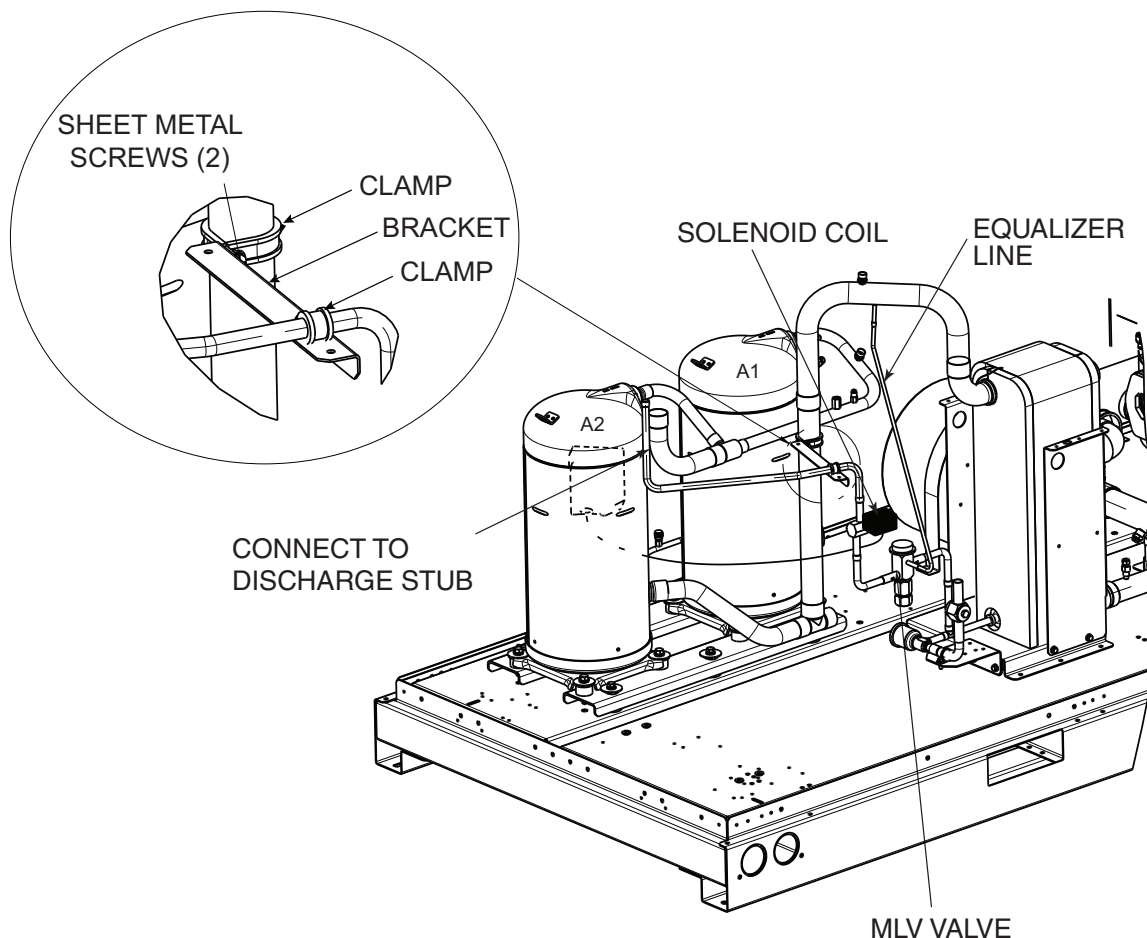
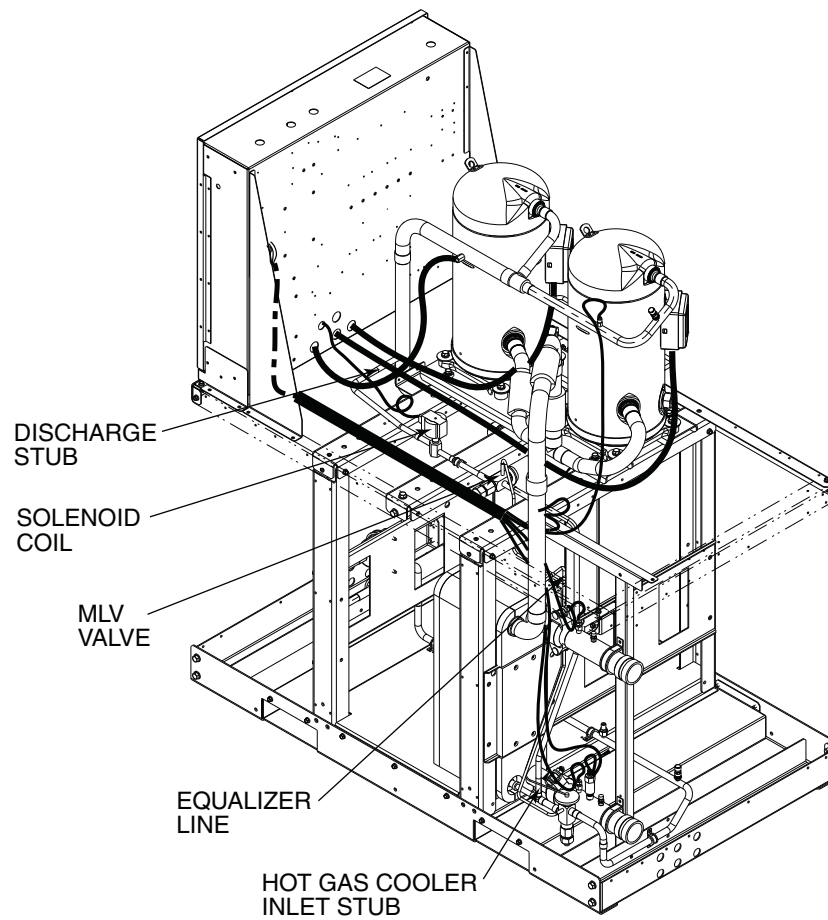
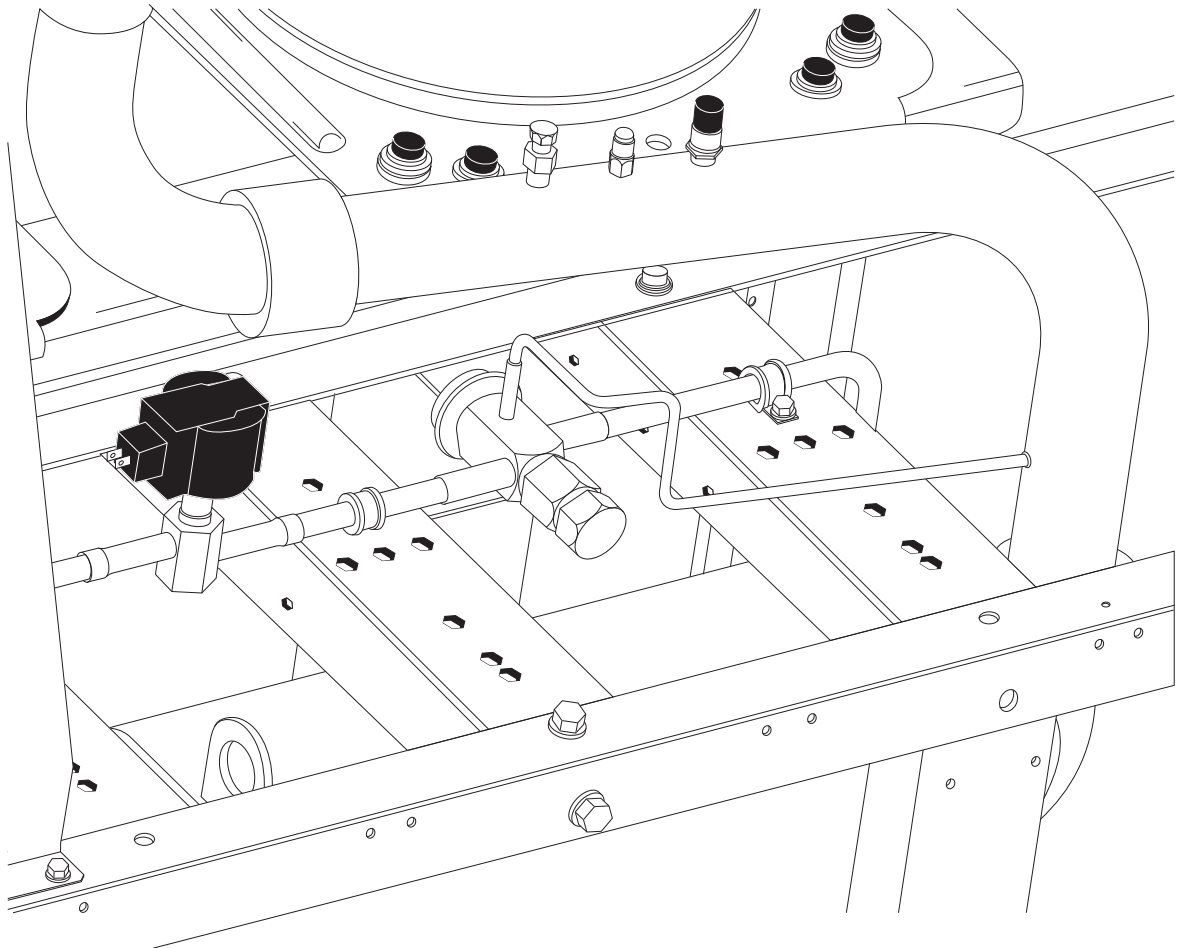

Fig. 2 — 30RAP Base Unit Connection Locations (Sizes 011-030)
Fig. 4 — 30MPA and 30MPW Connection Location (Typical — Sizes 016-030, 040-045 Shown)
Fig. 6 — 30MPA and 30MPW050-071 Connection Location (Typical - Size 060 Shown)
2. Locate the factory-supplied stub between the expansion device and cooler and the discharge stub on the discharge line. Locate the stub for the equalizer line on the suction line (30RAP, 30MPA, and 30MPW050-071), or the thermostatic expansion valve (TXV) (30MPA and 30MPW016-045). It is needed for controlling the MLV. See Fig. 2 and 3 (30RAP), Fig. 4 and 5 (30MPW016-045), or Fig. 6 (30MPA and 30MPW050-071).
3. Cut the closed stubs on the discharge and cooler inlet. Prior to brazing both the Hot Gas Bypass Valve and Solenoid Valve, be sure to provide overheating protection to the devices by wrapping in a wet rag. Install a 1/2-in. copper line as shown in Fig. 2 and 3 (30RAP), Fig. 4 and 5 (30MPW016-045), or Fig. 6 (30MPA and 30MPW050-071). Connect the MLV outlet to the stub between the expansion device and cooler with 1/2-in. copper tubing. Connect 4 to 6-in. of 1/2-in. OD copper tube to the MLV inlet and then connect the solenoid valve to the end of that piping. In between the solenoid valve and the discharge stub, install the amount of 1/2-in. OD copper tube and 1/2-in. OD copper elbows necessary to connect the valve and stub together. The refrigerant flow will come from the discharge stub and into the stub between the expansion device and cooler. See Fig. 2 and 3 (30RAP), Fig. 4 and 5 (30MPW016-045), or Fig. 6 (30MPA and 30MPW050-071).
Connect the sheet metal bracket to the suction and equalizer piping using the clamps and screws provided. See Fig. 2 and 3.
1. Install solenoid coil in locations shown in Fig. 2 and 3.
1. Install solenoid coil in location shown in Fig. 4.